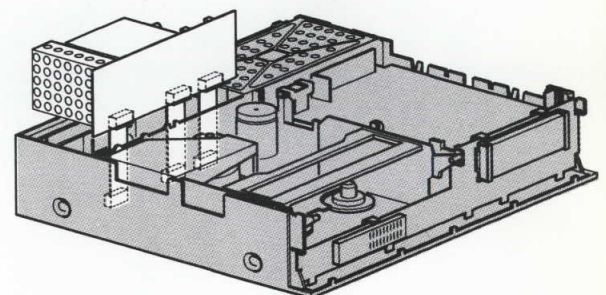

FIG. 2-4
- P112 can be mounted off-board (see Fig. 2-4) by means of three 8-fold extension PCBs (see sheet 3-6).